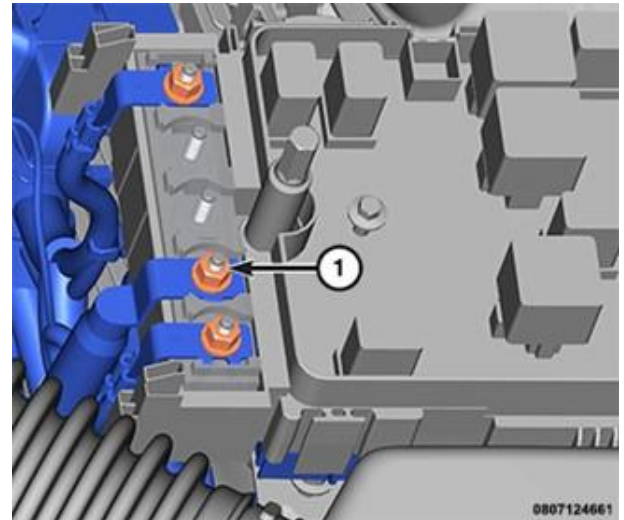

Figure 16 – Battery Positive Cable
25. Disconnect the B(+) battery cable (1) from the 12-volt PDC (Figure 16).